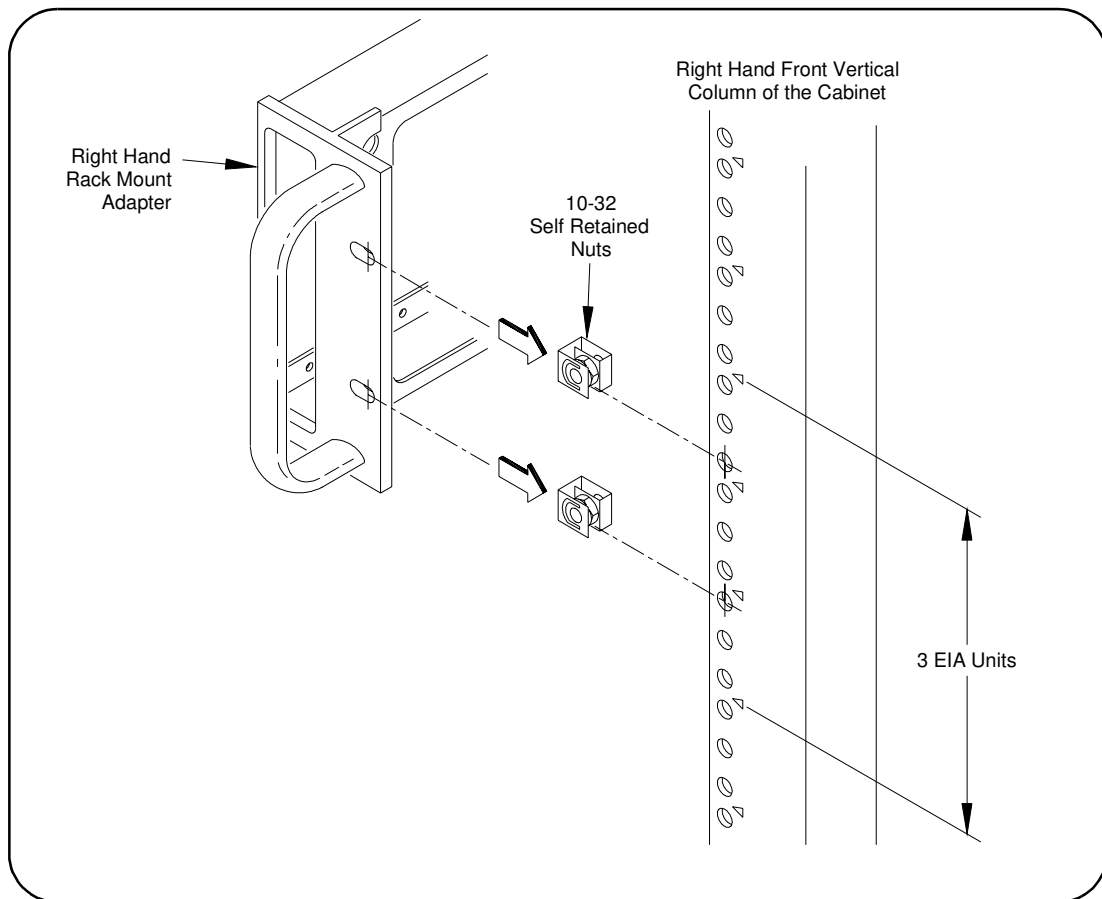

Figure 2-17. Installing Rack Mount Adapter Channel Nuts
Set Up Rack Cabinet Install Channel Nuts for Rack Mount Adapters (Figure 2-17)
- 2 Select the holes for the LH and RH Rack Mount Adapters. See Figure 2-17 for the RH Rack Mount Adapter hole locations. (LH Rack Mount Adapter hole locations are the same.)